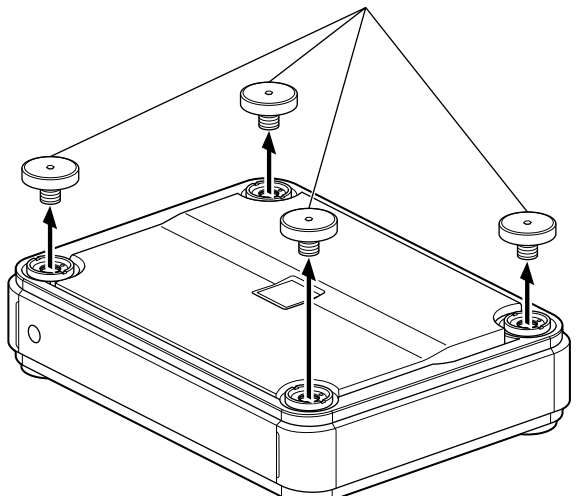
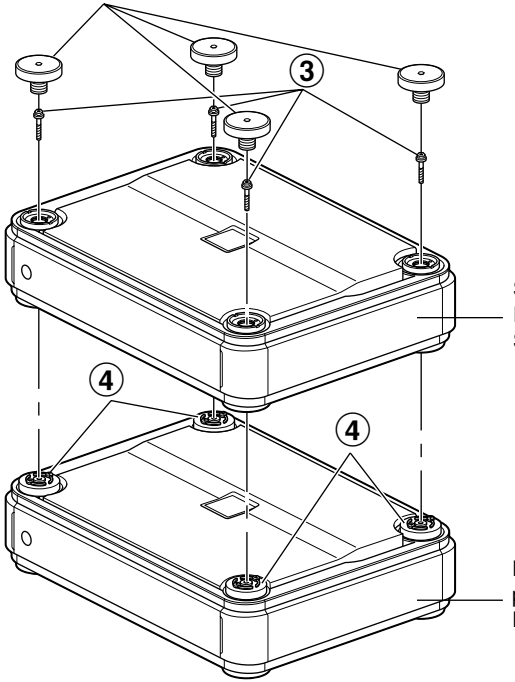

Fig. 1
Fig. 4
INSTALLATION (Fig. 1 - Fig. 4)
2. Remove the four corner top caps on top using the hexagon wrench (large, supplied). Refer to fig.1.
5. Insert the four machine screws (M4 x 36, supplied with connected amplifier) through the top of the second unit into the four joint caps of the lower unit to connect them together. Refer to fig.4